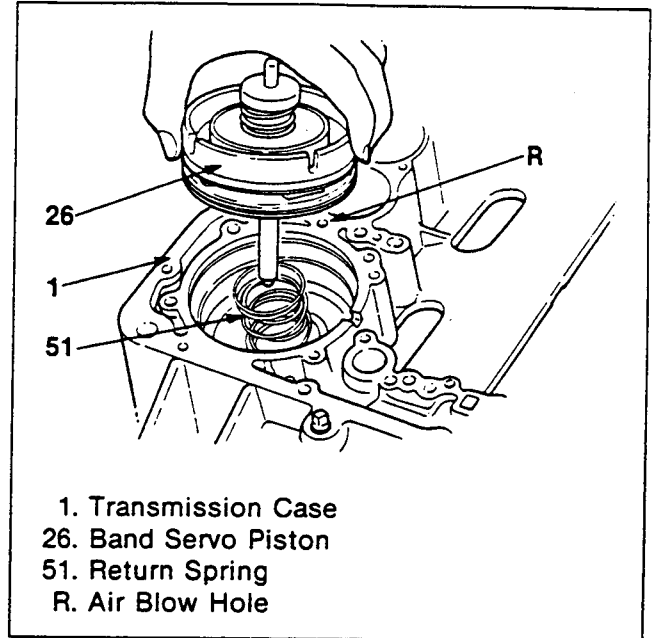

Figure 43. Band Servo Removal
3. Blow compressed air (294 kPa/42 psi or less) into oil hole to remove band servo piston (figure 43).